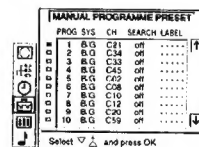

Fig. 7
- Select »Manual Programme Preset« with Δ or ∇ and press OK. The MANUAL PROGRAMME PRESET menu appears. (See Fig. 7)